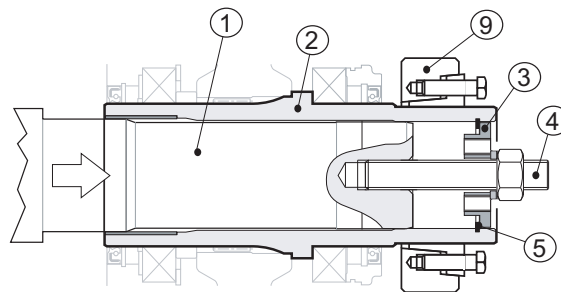

Fig. 21
Now insert the inner snap ring retaining ring (pos. 5) then the end plate (pos. 3). Now when you tighten the threaded rod, the two shafts will abut against each other (see Fig. 21 (p. 28)).